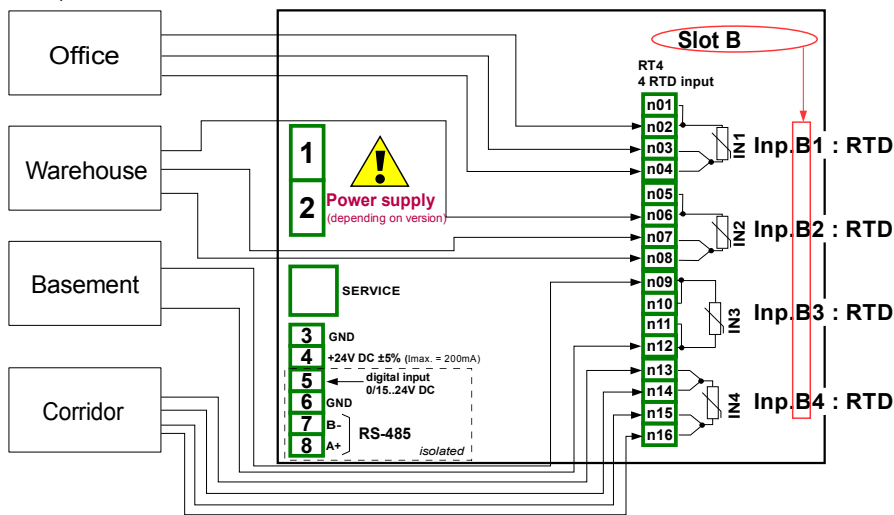

Fig. 7.65. Schematic diagram for the RT4 module
Before measuring temperature, user should configure the device, and then connect the sensors as shown in Fig. 7.65 (see Appendix 8.6. RT4 , RT6 – RTD MEASUREMENT MODULES).
- **Source** parameter set as **Inp. B1: RTD** (see the connection in Fig. 7.65),